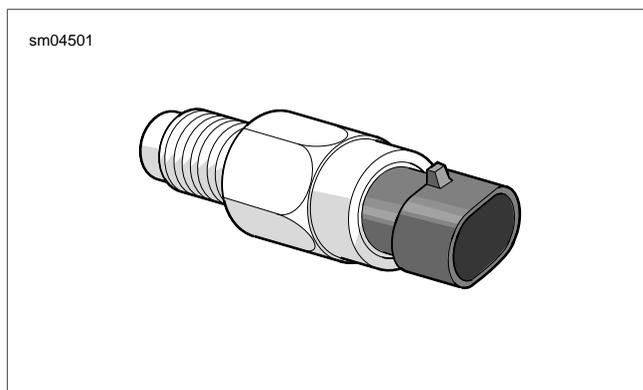

Figure 4-25. ET Sensor
4. Slide a deepwell socket over the sensor body hex and turn counter-clockwise to loosen. When sensor turns easily, pull out the deepwell socket and remove sensor by hand. See Figure 4-25.